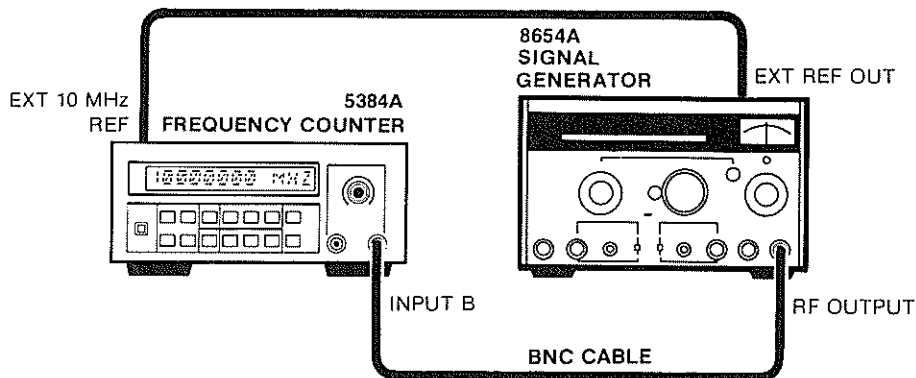

Figure 4-3. Channel B Frequency Response and Sensitivity Test Setup for 5384A
- a. Connect the 8654A signal generator to the 5384A B channel input as shown in Figure 4-3.